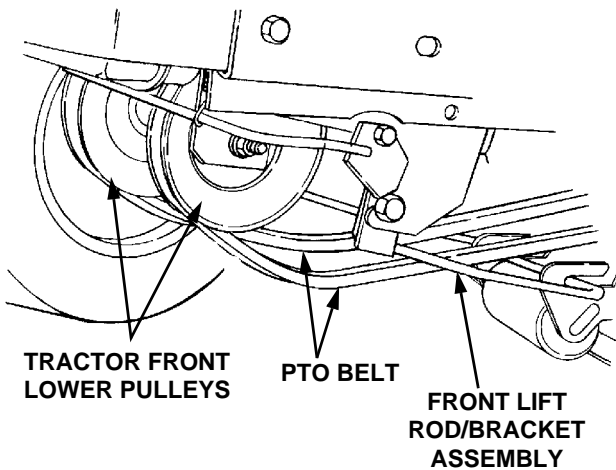

Figure 59
11. Pass the PTO belt downward, inside the tractor frame, until the belt is below the two tractor front lower pulleys. Twist the two sides of the PTO belt 1/4 turn inward to engage the narrow sides of the belt into the grooves of the two tractor front-lower pulleys (See Figure 59).